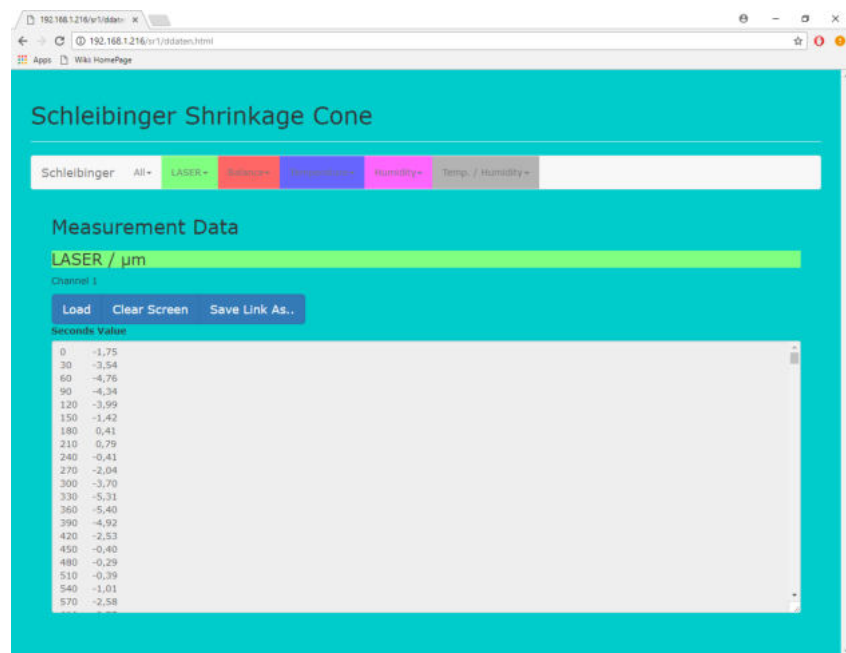

Figure 23: Measurement values of single channel as text file
- All measuring data values will be displayed (Fig. 23)